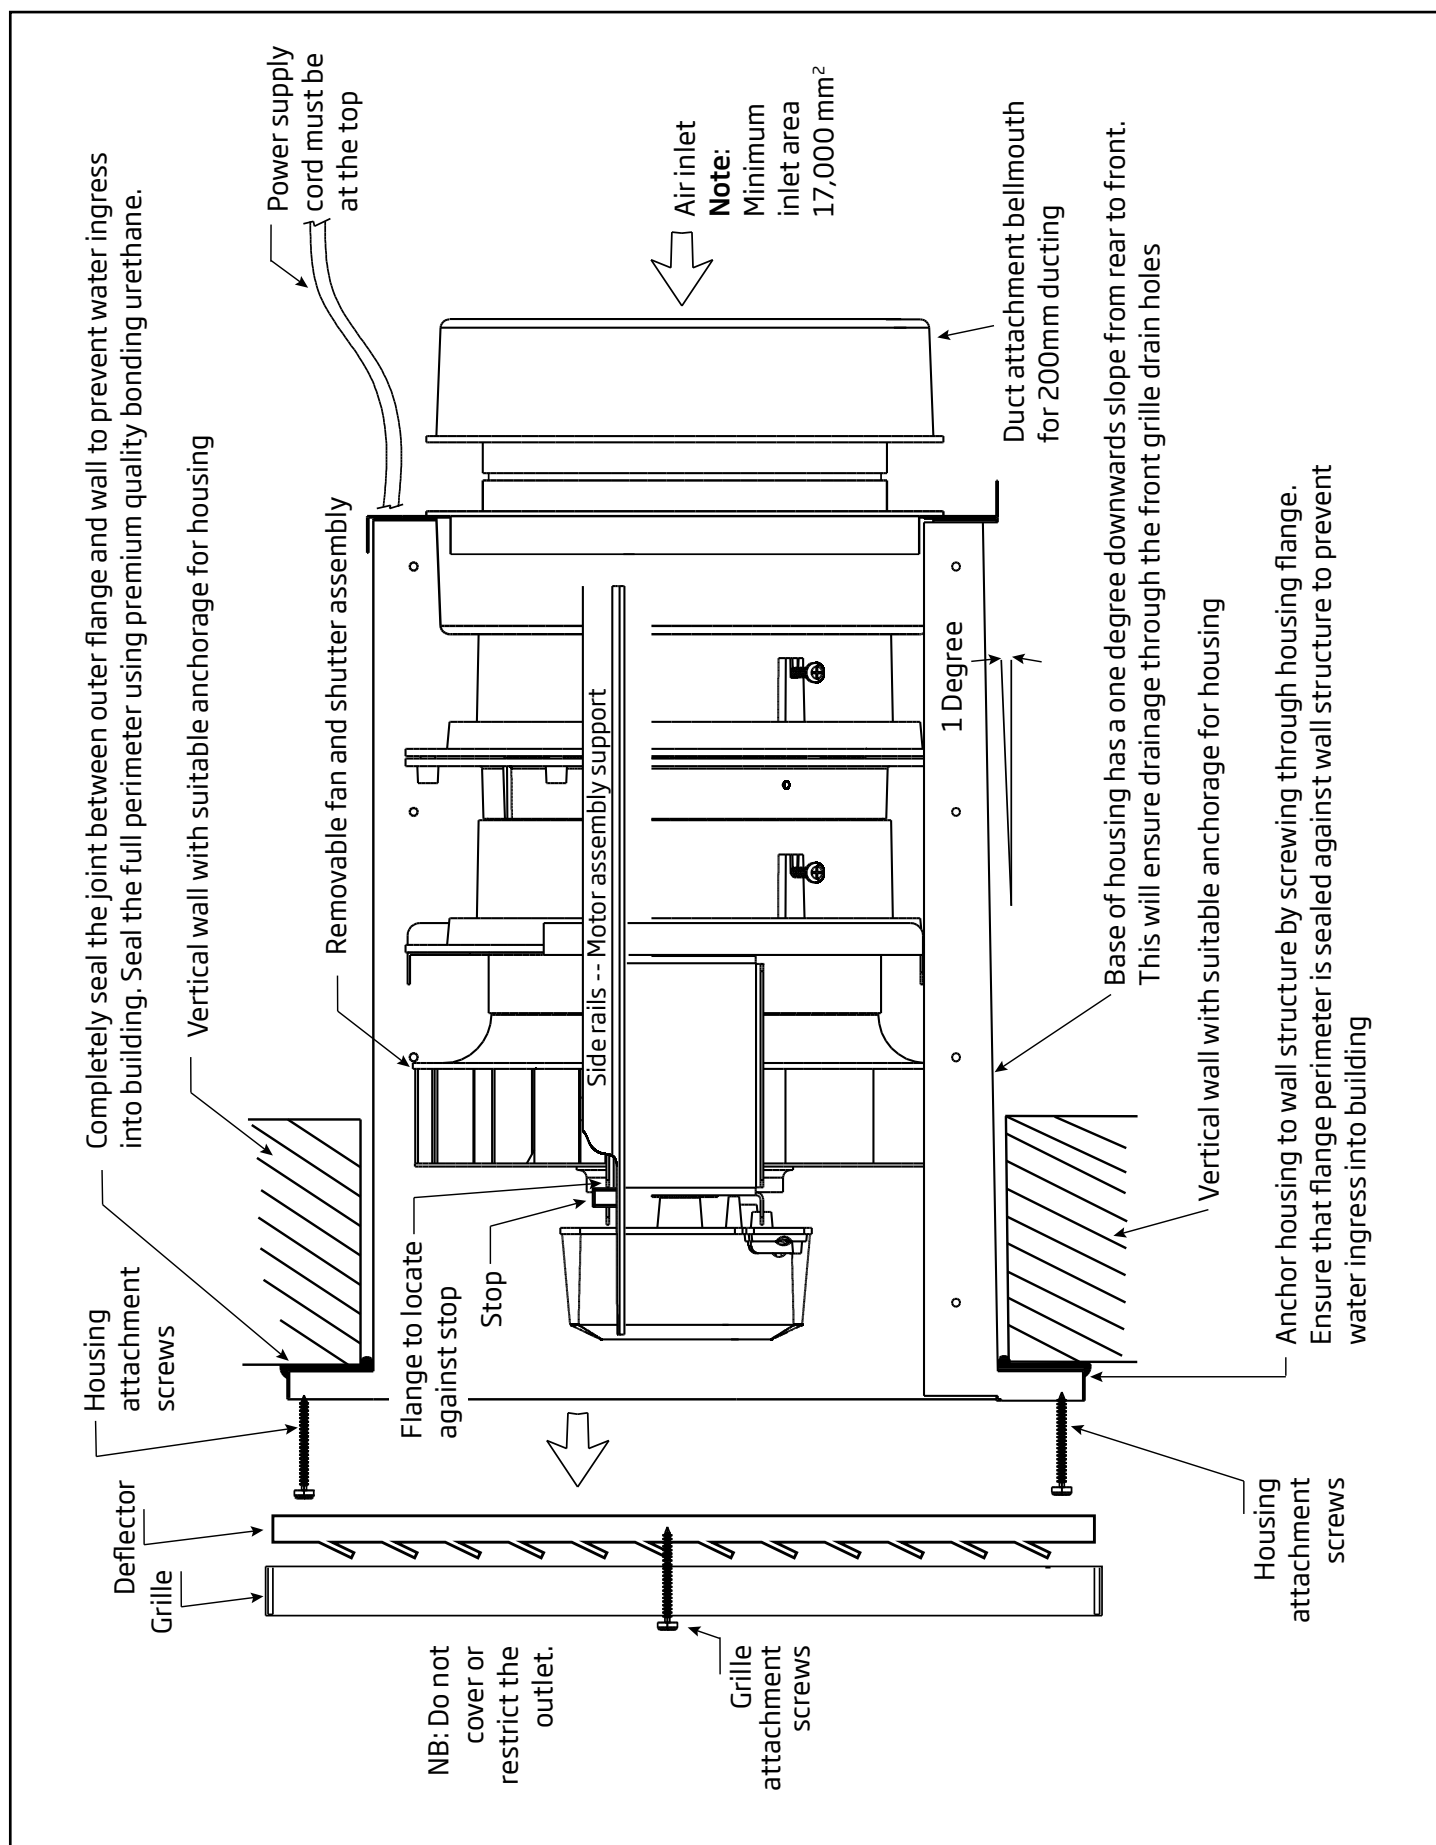
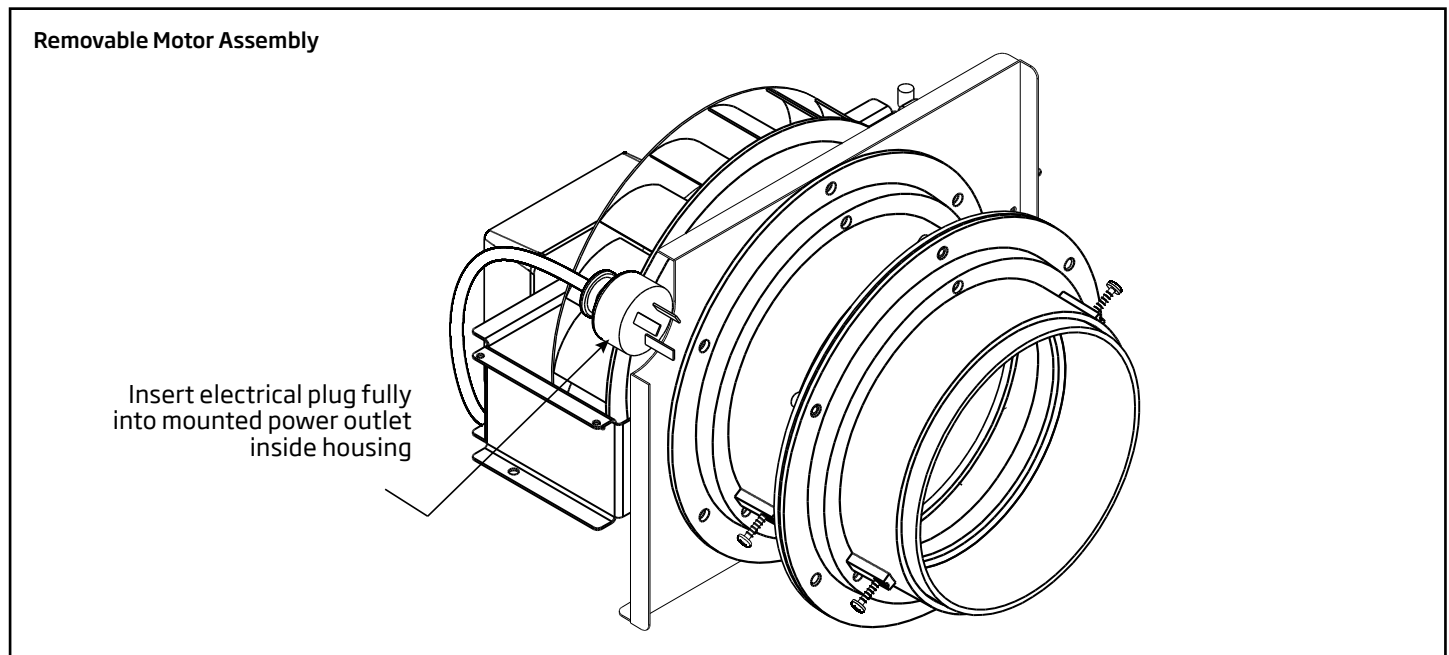
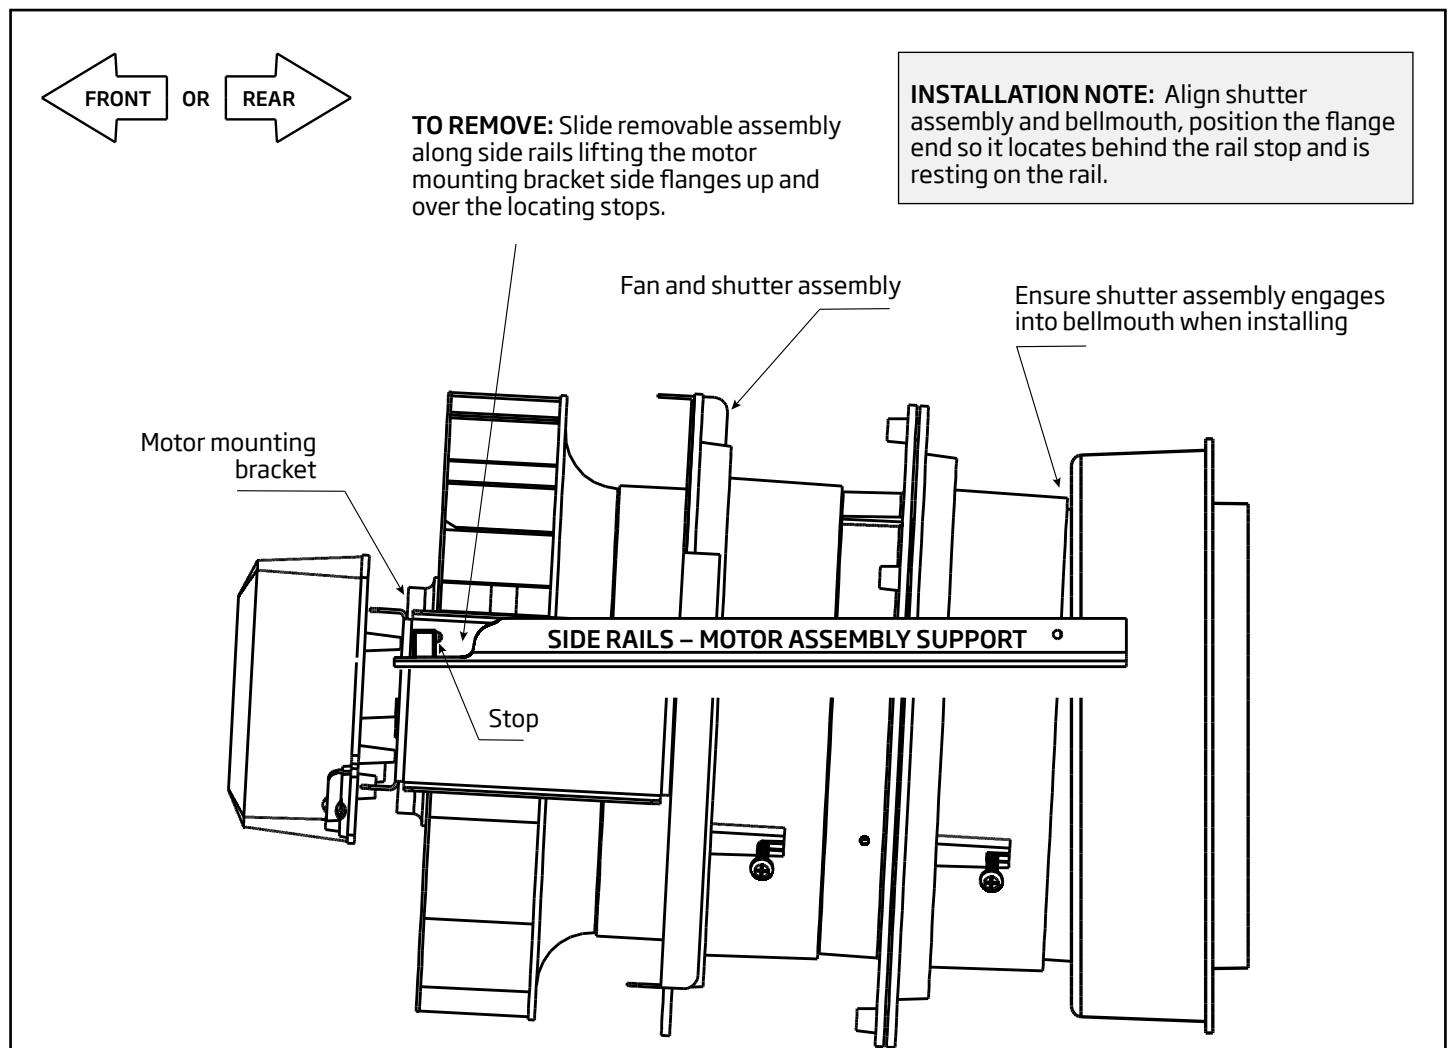
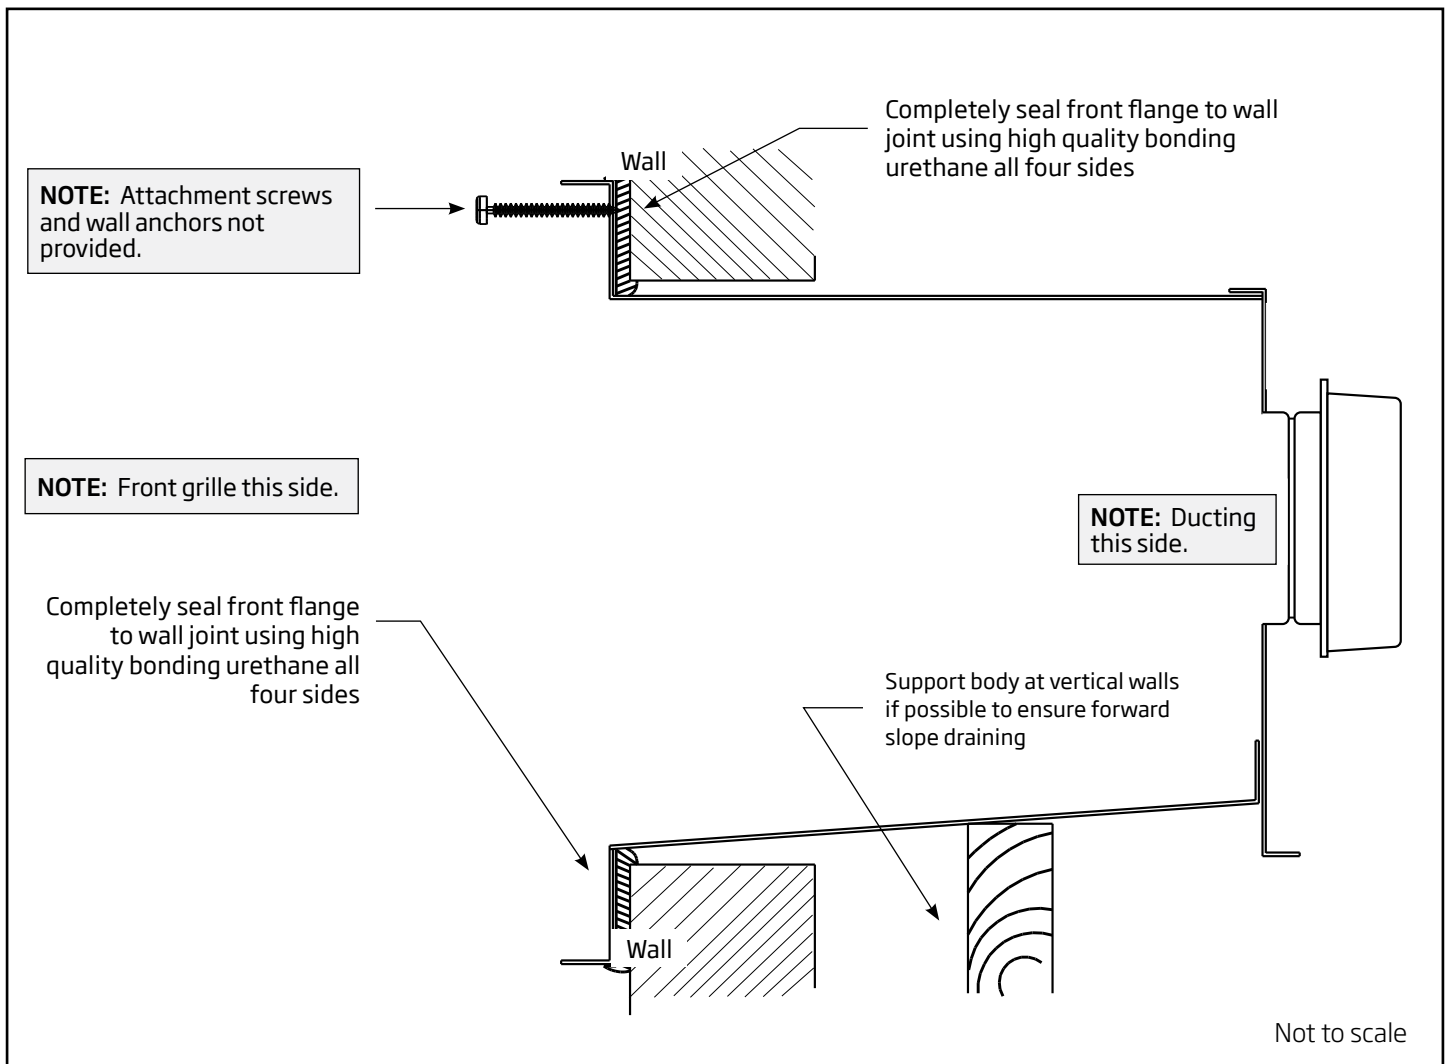

Figure 1A
Figure 1B
Figure 2
Figure 4
2. Undo the 2 screws holding front grille and the deflector, and remove them from housing (See figure 1A, pg.10).
4. Remove the motor from the housing and set safely aside before proceeding with the installation: Lift the motor mounting bracket side flanges up and over the locating stops and remove the motor assembly (See Figure 1B and Figure 2 on page 11).
6. To prevent water ingress apply a high quality adhesive sealant to the rear of the front flange of the motor housing, ensuring that the entire gap between flange and wall is sealed (See Figure 1A, pg.10; and Figure 4, pg.12) and secure motor housing to wall using 4 attachment screws (see figures 1A, 4, 5). Remove excess sealant that is extruded from the joint.
7. Once the motor housing has been screwed and fitted securely to the wall. Insert the motor assembly, making sure the internal electrical plug is connected into the mounted power outlet inside the housing (see Fig.1A, pg. 10, Fig.1B, & Fig.2, pg.11).
8. Install the Front Grille and Deflector, and secure using grille attachment screws (see Fig. 1A, pg.10).